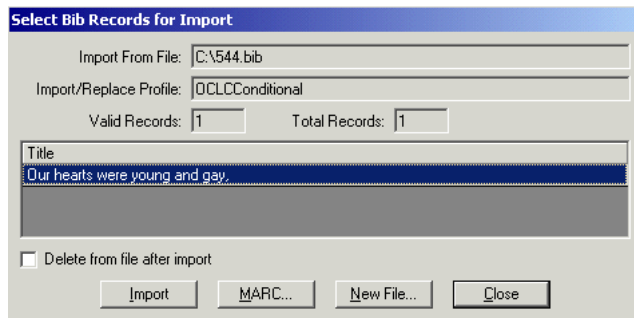

Figure 13-11. Select Bib Record(s) for Import dialog box - MARC button displayed
- The **MARC** button on the **Select Bib Records for Import** dialog box (see Figure 13-11) which is used to import bibliographic records into the database from a file.